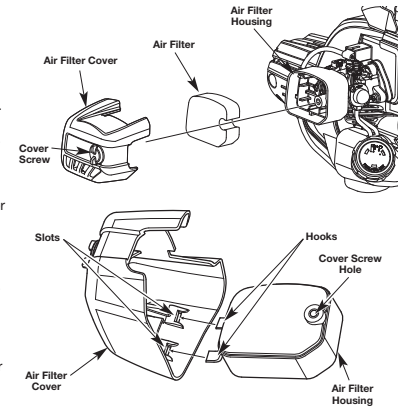

Fig. 16
1. Open the air filter cover by unscrewing the cover screw (Fig. 16).
2. Remove the air filter and the screen that sits behind it (Fig. 16).
6. Replace the air filter and the screen that sits behind it (Fig. 16).
8. Reinstall the air filter cover. Insert the hooks on the air filter housing into the slots on the air filter cover (Fig. 16).
9. Swing the air filter cover to the right and align the cover screw with the cover screw hole (Fig. 16). Tighten the cover screw to secure the air filter cover.